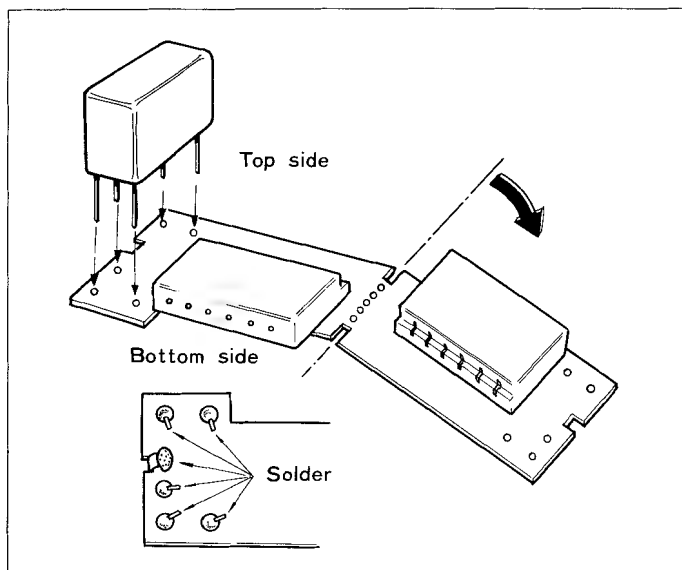

Fig. 9 How to Use the Supplied PC Board
SQU: Sets your transceiver to the "tone squelch" mode of reception with the Tone Squelch Indicator ④ lit red. The tone squelch circuit built into the TR-7400A, called the "CTCS" (continuous tone controlled squelch) is operated by the tone signal of a specific frequency that has been superimposed with the your voice signal onto the carrier in the TX unit and is separated in the RX unit. You may select any desired tone frequency by choosing one of the tone squelch active filters listed as options available for the TR-7400A in Table 1. Figure 9 shows installation of the tone squelch active filter on the PC board supplied with your TR-7400A.
Split the supplied PC board into two sections as shown in Fig. 9. You now have two separate tone squelch boards for ease in changing tone frequencies.